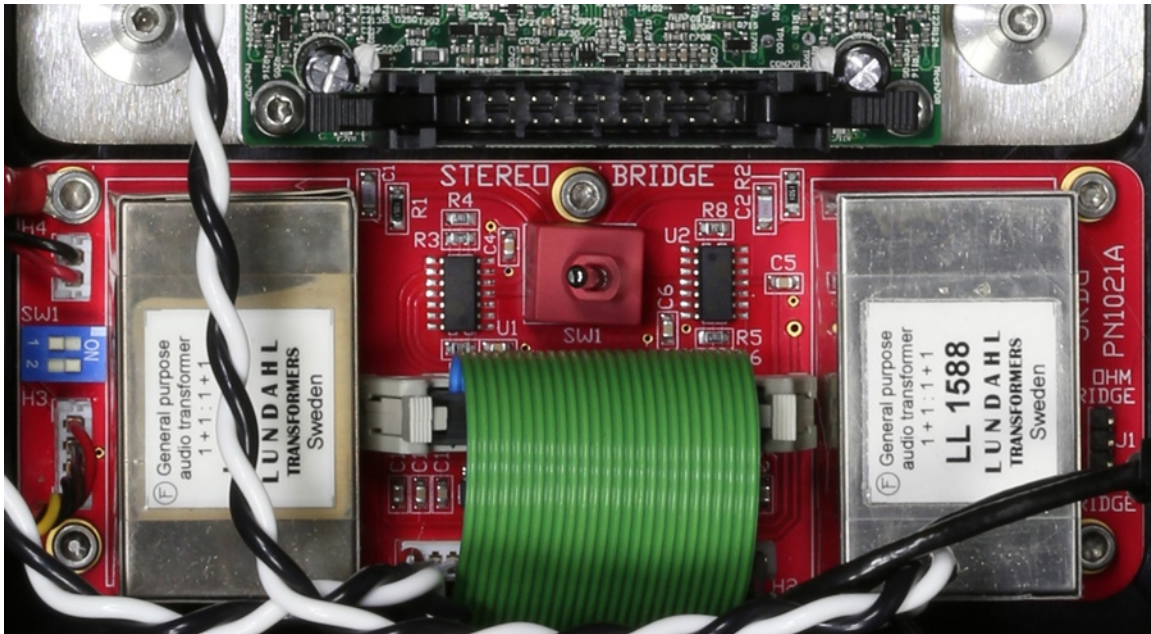

Figure 7: Blue Ribbon Cable in Open Position
4. Bend blue ribbon cable backwards to reveal SW1 dip switch. (Figure 7)